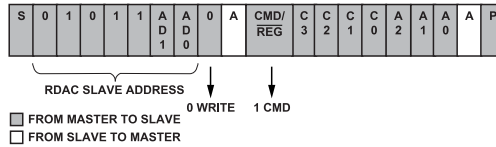

Figure 31. RDAC Quick Command Write (Dummy Write)
The AD5253/AD5254 feature 12 quick commands that facilitate easy manipulation of RDAC wiper settings and provide RDAC-to-EEMEM storing and restoring functions. The command format is shown in Figure 31, and the command descriptions are shown in Table 9.
2. In the write mode (except when restoring EEMEM to the RDAC register), there is an instruction byte that follows the slave address byte. The MSB of the instruction byte is labeled CMD/ $\overline{REG}$ . MSB = 1 enables CMD, the command instruction byte; MSB = 0 enables general register writing. The third MSB in the instruction byte, labeled EE/RDAC, is true when MSB = 0 or when the device is in general writing mode. EE enables the EEMEM register, and REG enables the RDAC register. The 5 LSB, A4 to A0, designates the addresses of the EEMEM and RDAC registers (see Figure 27 and Figure 28). When MSB = 1 or when the device is in CMD mode, the four bits following the MSB are C3 to C1, which correspond to 12 predefined EEMEM controls and quick commands; there are also four factory-reserved commands. The 3 LSB—A2, A1, and A0—are 4-channel RDAC addresses (see Figure 31). After acknowledging the instruction byte, the last byte in the write mode is the data byte. Data is transmitted over the serial bus in sequences of nine clock pulses (eight data bits followed by an acknowledge bit). The transitions on the SDA line must occur during the low period of SCL and remain stable during the high period of SCL (see Figure 33).